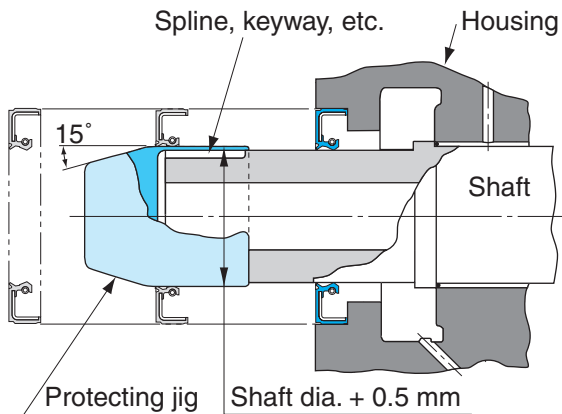

Fig. 1.7.8 Seal protecting jig for spline, keyway, holes on shaft
7) In case of shaft has spline, keyway, or holes, use seal protecting jig to prevent lip damage as illustrated bellow (Fig. 1.7.8).